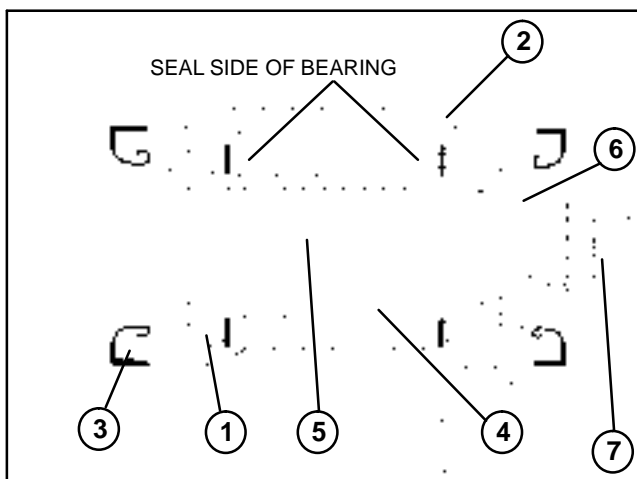

Figure 25
**Note:** The seal side of each bearing should face the inside of the drum hub (Fig. 25).
1. Press bearing into the drum hub. Pack bearing with grease. Fill space outside of bearing with grease. Press spring lip seal into the hub with its flat side out (Fig. 25).
2. Insert seal spacer into drum hub. Press bearing into the hub and pack with grease. Fill space outside of the bearing with grease. Press second spring lip seal into the hub with its flat side out (Fig. 25).
3. Apply grease to the shaft of the drum spindle. Carefully slide drum spindle into drum hub bearings. Secure lock nut and seal spacer to the drum spindle (Fig. 25).